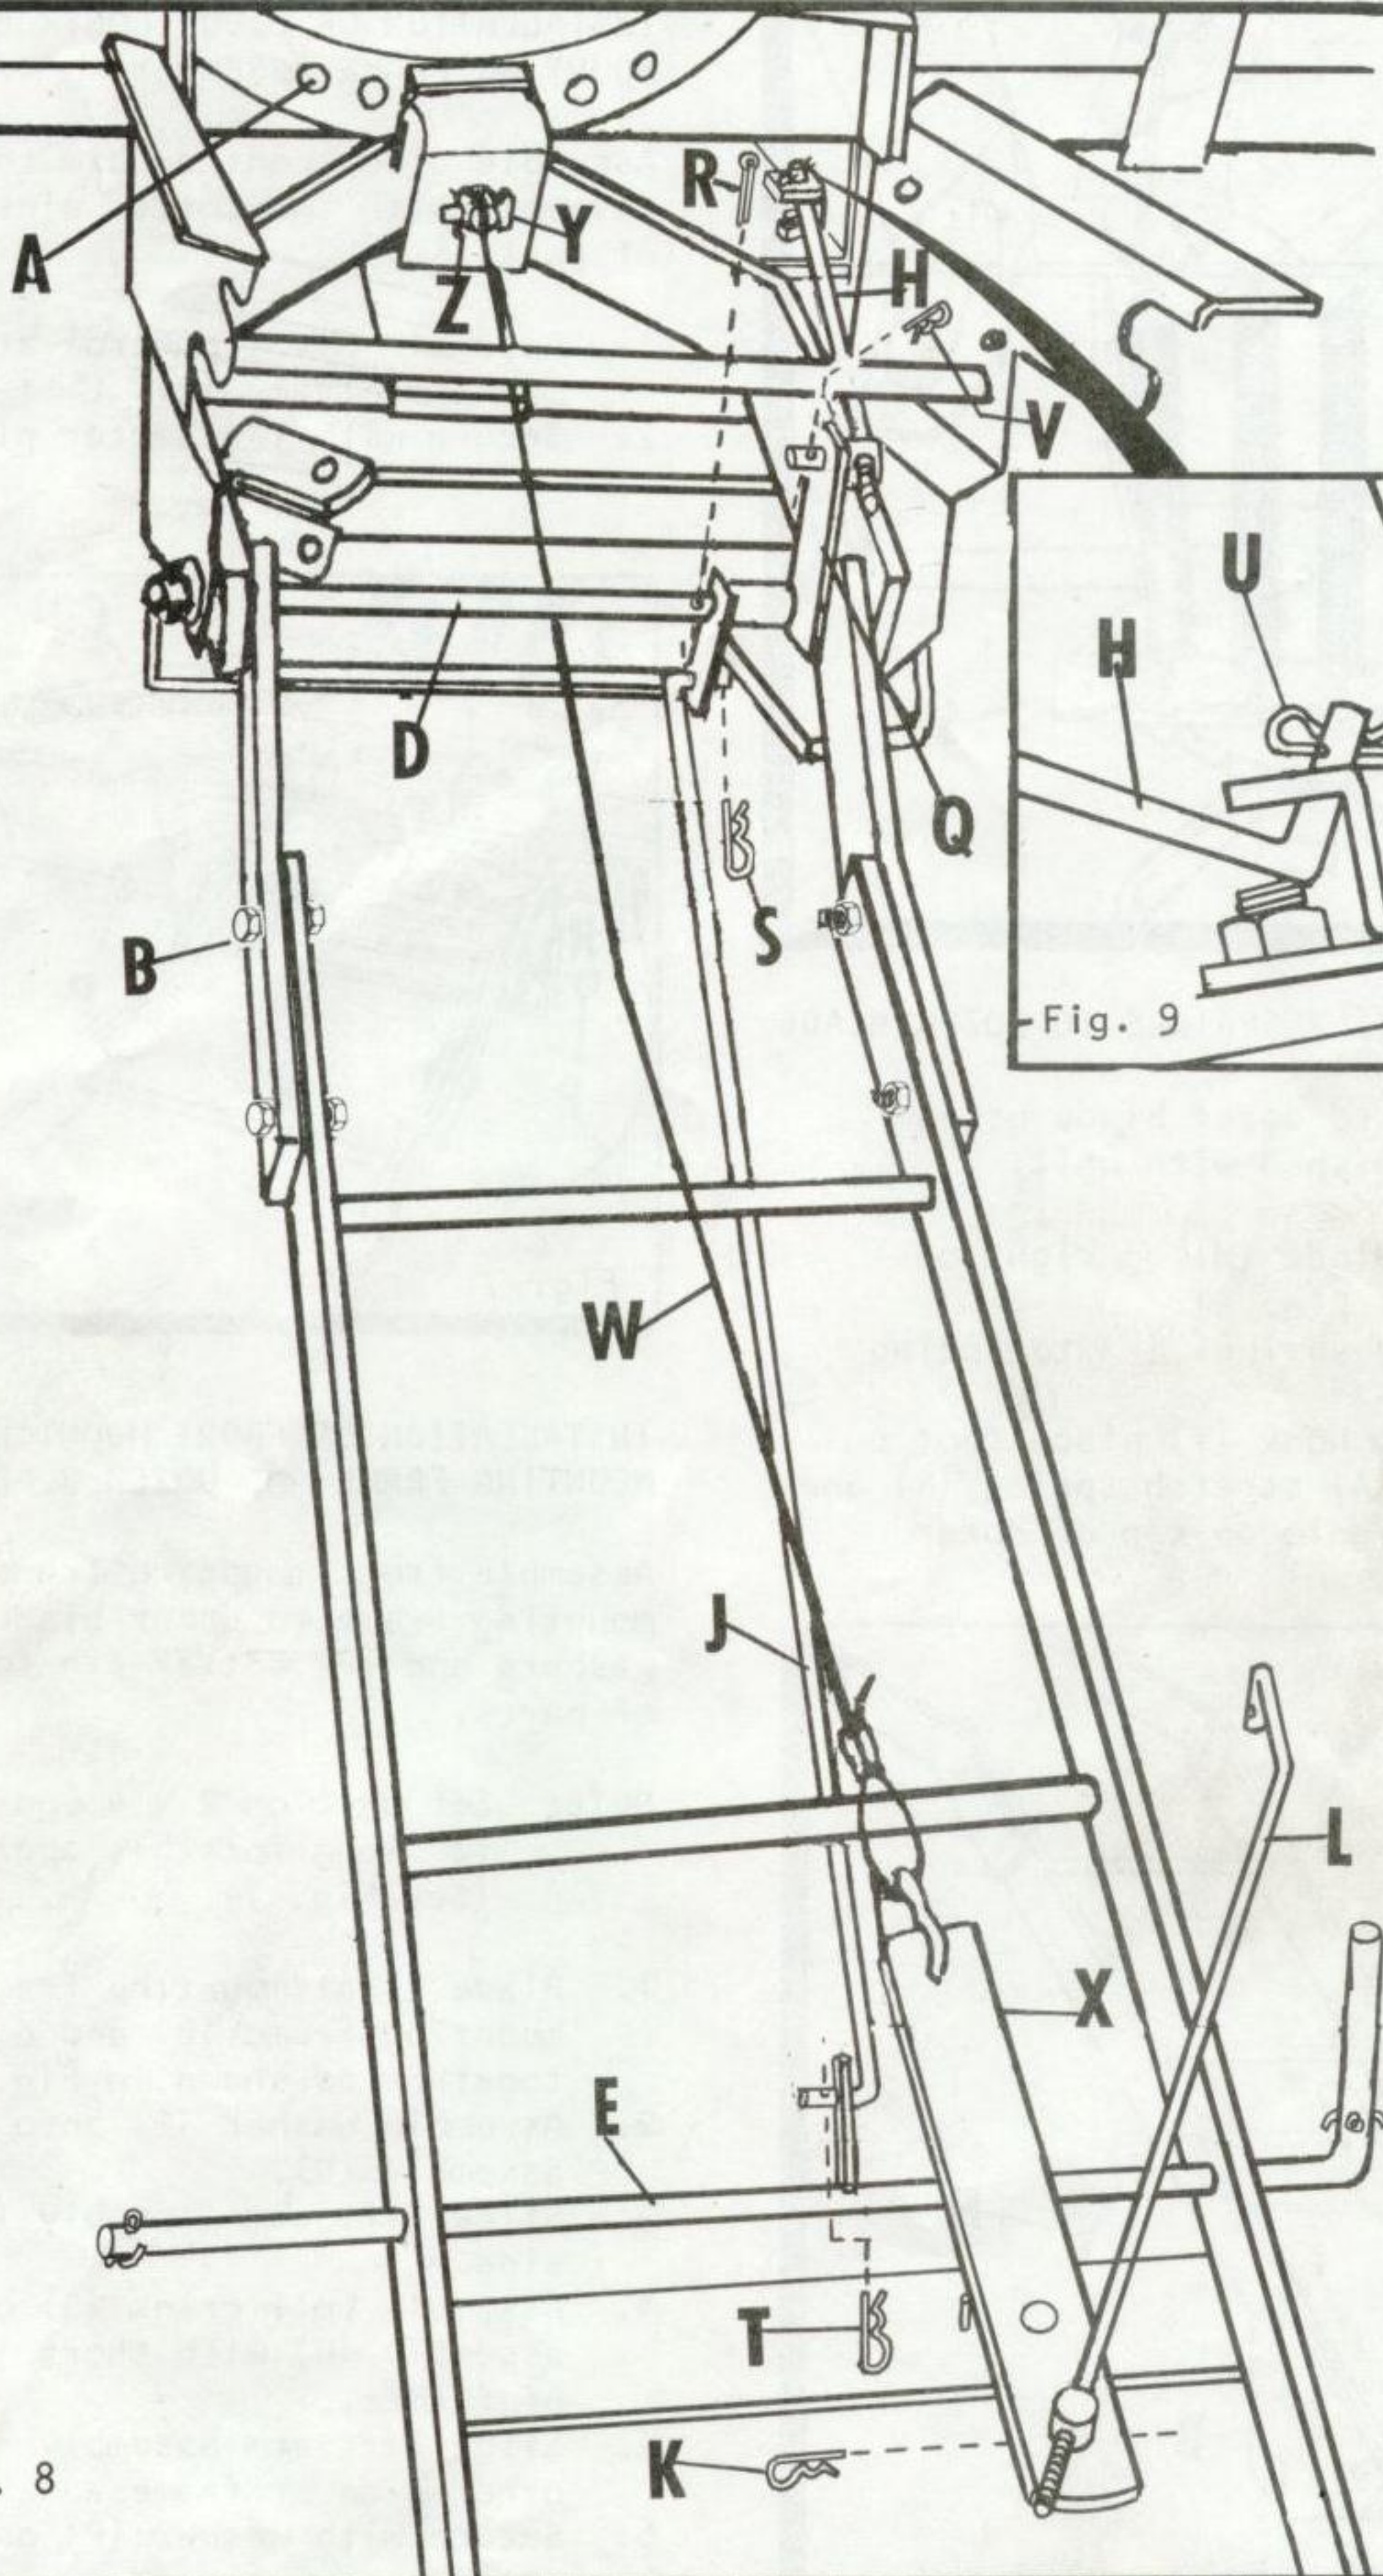

Fig. 8
1. Secure bell crank (Q) to lift bracket assembly (D) with cotter pin (R). (See Fig. 8)
2. Assemble rear pivot rod (J) under rear mounting frame assembly (B).
3. Assemble rear pivot rod (J) to bell crank (Q) and secure with hair cotter pin (S).
4. Assemble rear pivot rod (J) to pivot control arm (E) and secure with hair cotter pin (T).
1. Assemble hooked end of front pivot rod (H) to "A" frame assembly (A) and secure with hair cotter pin (U). (See Fig. 8 & 9)
2. Assemble threader end with anchor of front pivot rod (H) to bell crank (Q) and secure with hair cotter pin (V).
Assemble pin release cable with one clevis pin and one hair cotter pin found assembled in "A" frame assembly. (See Fig. 8)
1. Assemble threaded end with anchor of pin release rod (L) to pivot strap (X). (See Fig. 8)
2. Secure with hair cotter pin (K).